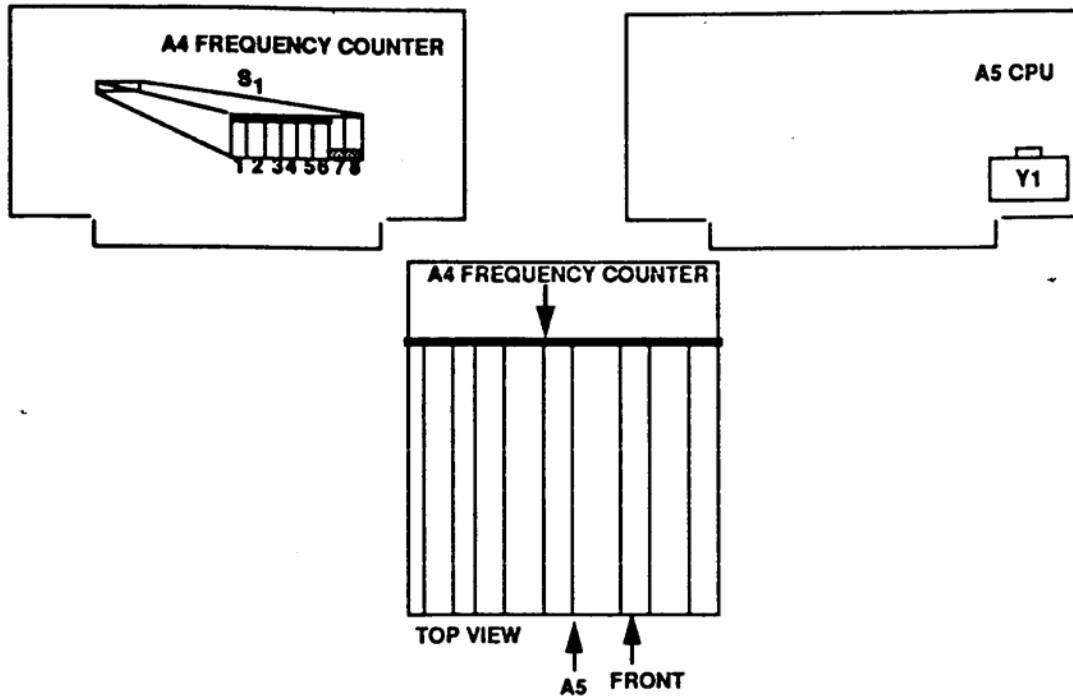

Figure 5. Time base accuracy - adjustment locations.
(a) Remove top cover and set A4S1 switch positions 7 and 8 (fig. 5) to open (down) and press **LCL INIT** key.
(3) Remove cover screw from A5 CPU Y1 (fig. 5) and adjust internal slotted screw for a TI indication of 10000.00 kHz (± 1 count) (R).
(4) For 1120-S/10 only, reset A4 FREQUENCY COUNTER S1 switch positions 7 and (8 fig. 5) to the closed (up) position.
(5) Replace A5 CPU Y1 (fig. 5) cover screw and TI top cover.